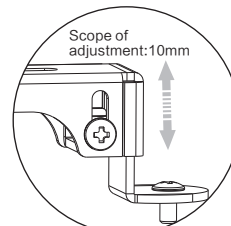

figure 18
4. Rotate the adjustable screw (4-4) for adjusting the height of installation arms (4-2) if the installation holes are not at the same level as figure 18.